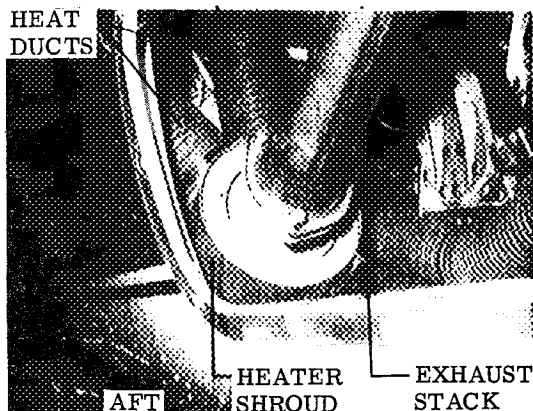

Figure 1
2. Remove both heat ducts from the heater (see figure 1).